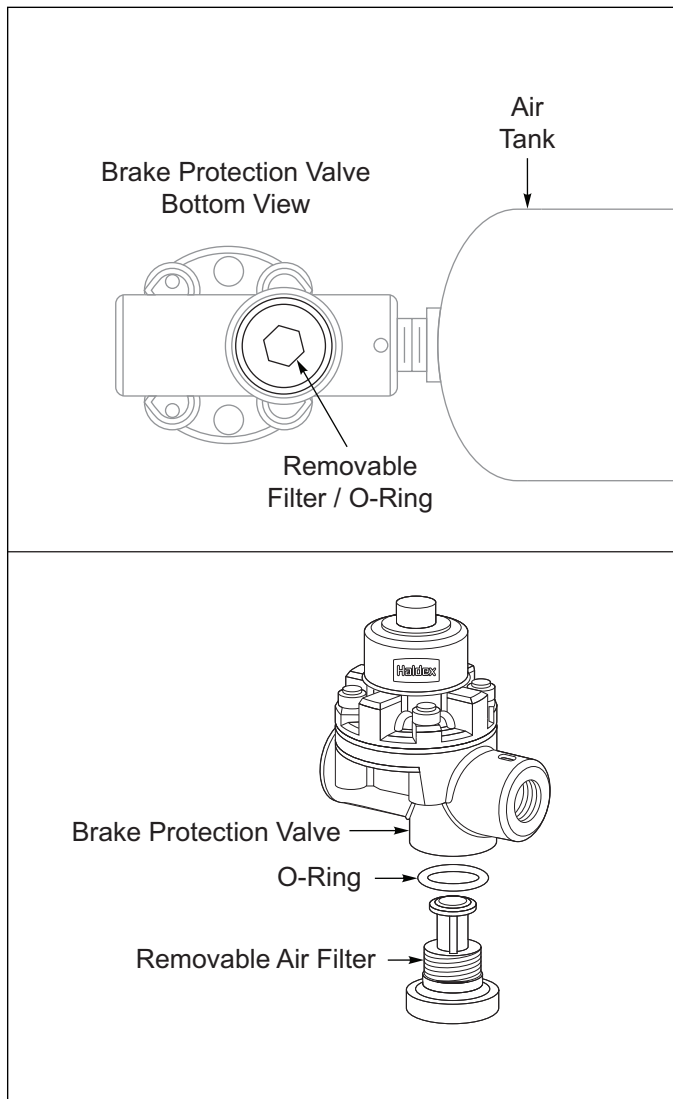

Figure 4-2: Brake Protection Valve
3. Check the brake protection valve filters every 3 months or when the air flow becomes restricted, See **Figure 4-2**.